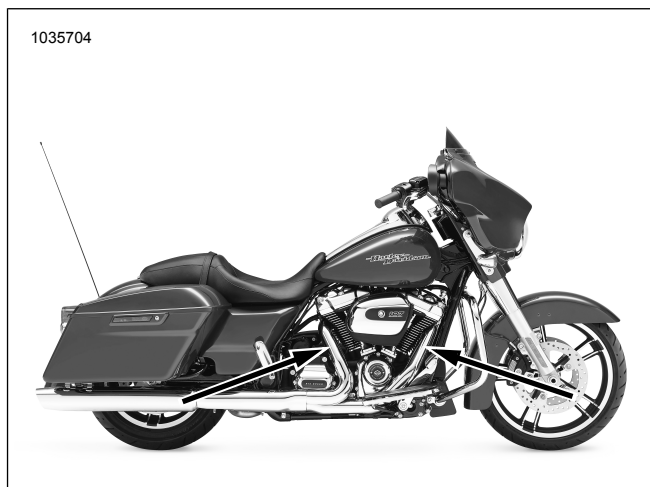

Figure 11. Oxygen Sensor Locations (Inboard Side of Exhaust Pipes)
See Figure 11, Figure 52 and Table 5 Install wide band oxygen sensors (2). Using Oxygen Sensor Socket (Part No. HD-48262-A) tighten to: